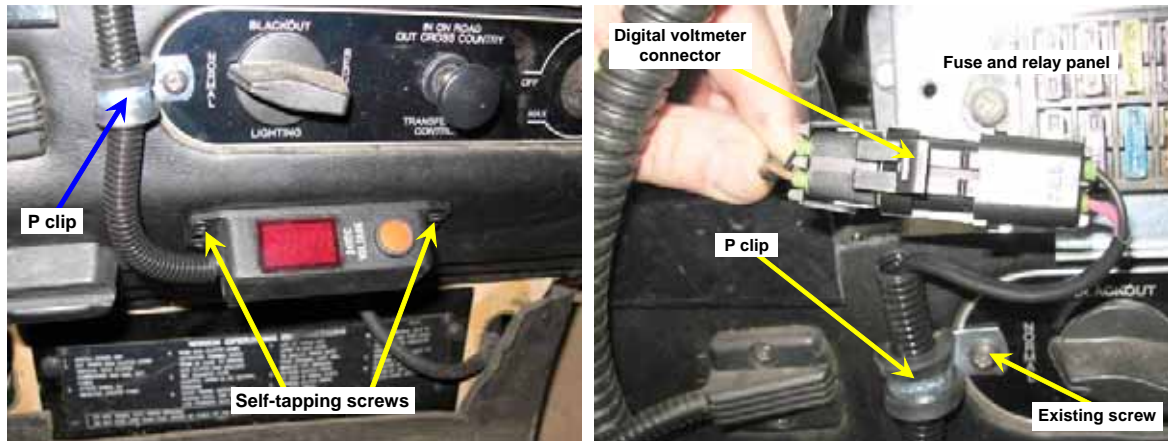

Figure 43 Mounting and Connecting the Digital Voltmeter
- (1) Using the digital voltmeter (Table 1, Item 70) as a template, mark the holes such that the voltmeter is located 60 mm from the map light clamp and 70 mm up from the lower lip of the dash. Drill four 3 mm holes and mount the voltmeter on the underside of the dash with four countersunk self-tapping screws (Table 1, Item 71) as shown in Figure 43.
- (2) Connect the twin plug on the voltmeter lead to the twin socket on the sense wire harness and secure the short conduit attached to the voltmeter in place with a small P clip (Table 1, Item 85) and the existing screw on the dash panel as shown in Figure 43.
- (3) Tidy the plug/socket and any excess cabling behind the left side of the fuse and relay panel and refit the panel cover.
- (4) Refit the instrument panel and reconnect the speedometer cable.
- (5) Tidy the wiring in the engine bay and then refit the harness protector plate to the firewall and the air cleaner.